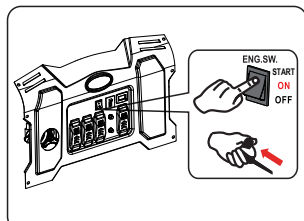

Fig 15 Recoil Start
- For manual start, turn the engine START/ON/OFF switch to the “ON” position. Pull the recoil handle (starter cord) slowly until resistance is felt, then pull rapidly. (See fig 15)